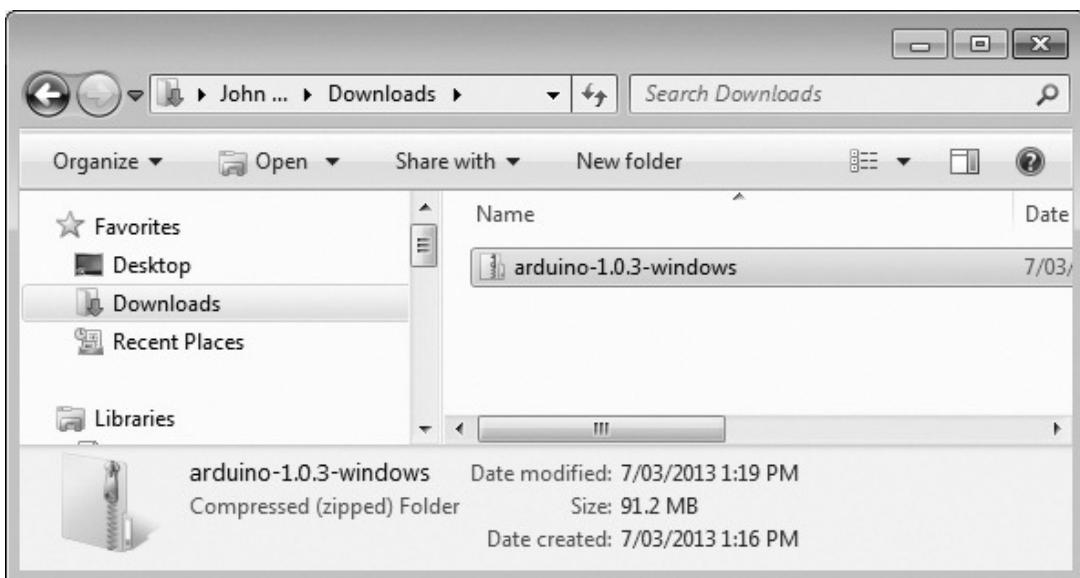

Figure 1-18. The IDE package
- Once the download is complete, double-click the file, and the window shown in Figure 1-18 will appear.